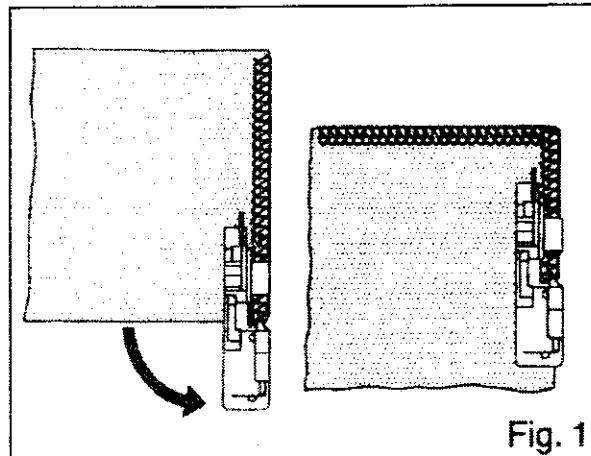

Fig. 1
Pull out the convertor as shown in Fig.1.
2. After finishing, reset the stitch finger in its place. Please ensure inserting it deep as illustrated in Fig 1.
Turn it towards "5" if fabric edge curls while sewing.(Fig.1)
3. Turn the fabric, lower the presser foot and begin stitching in the new direction. Fig. 1.
1. Snap the detachable cord guide, in your accessory set onto the thread guide pole (Fig.1).
2. Place a "filler" cord, such as a crochet cotton, gimp, wool, knitting yarn, or shirring elastic at the rear of the machine spool pin. Pass the cord through the cord guides (1) and (2) and then through the left needle thread guide (3). See Fig. 1.